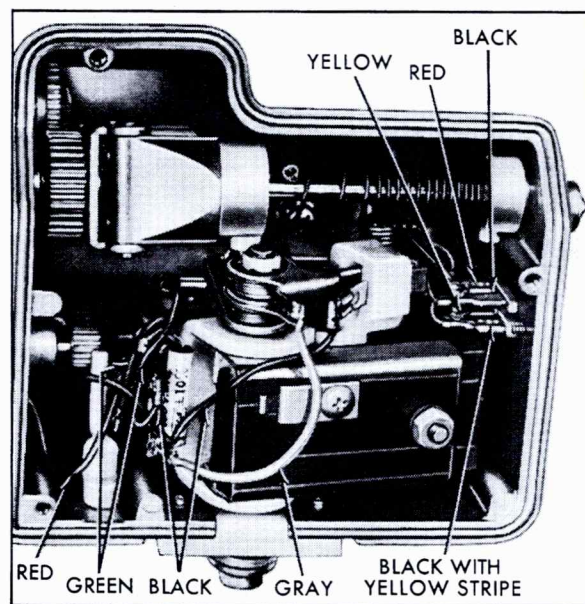

Fig. 15-19 Power Unit
4. Remove red motor wire at lower inboard terminal of auto relay switch (capacitor side), Fig. 15-19.
5. Disconnect black motor wire at close throttle motor feed point, Fig. 15-19 and free wire.
11. Disconnect red, black, black with yellow stripe and yellow wires from terminal board and remove magnet assembly, Fig. 15-19.